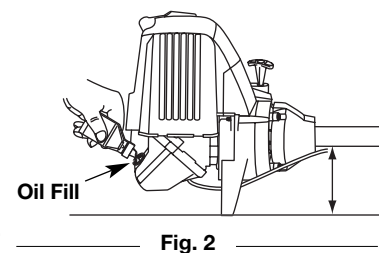

Fig. 2
2. Place the unit on a flat level surface (Fig. 2).